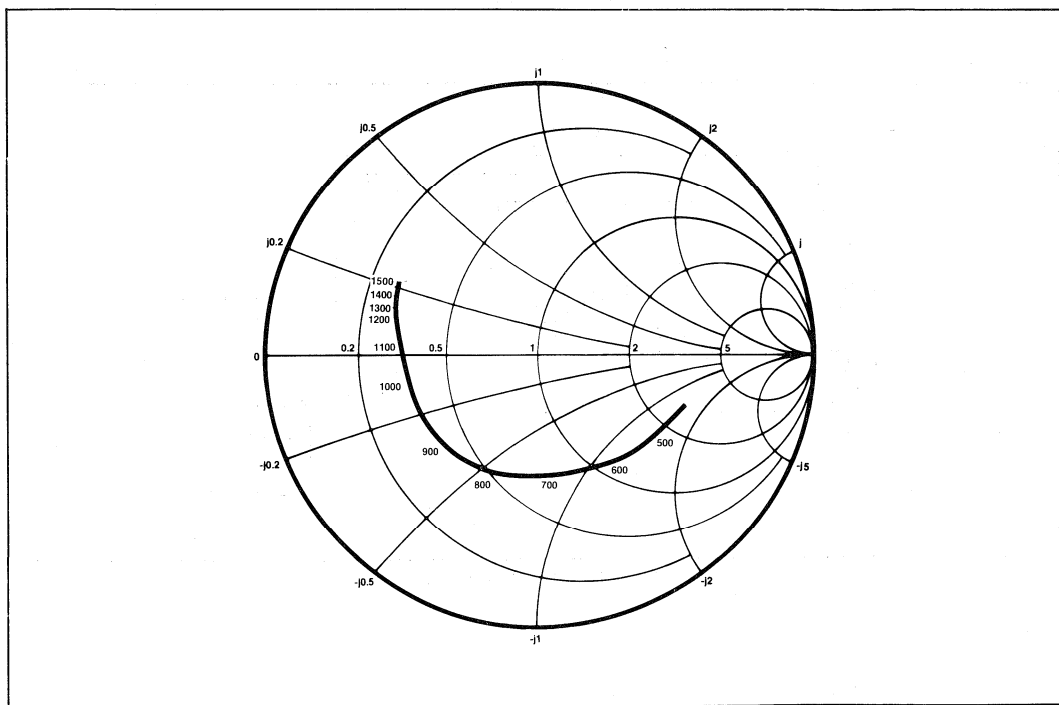

Fig.5 Typical input impedance. Test conditions: supply voltage 5.2V, ambient temperature 25° C, frequencies in MHz, impedances normalised to 50 ohms.
6. The input impedance of the SP8785/6 is a function of frequency, see Fig. 5. These impedance variations may give the effect of large variations in sensitivity because of the loading of the source by the device. For best results impedance matching should be used.